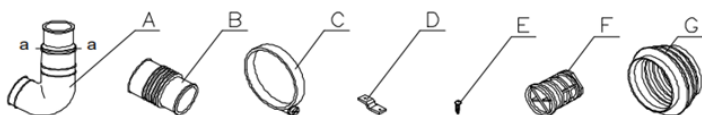

Fig. 2
- Pump accessories: A–G (see Fig. 2 – Accessories)
If you do not need this connection, use the spare part F (plug - see Fig. 2), insert it in the designated direction into the side connection and turn it 90 degrees to lock it in place.
If you are using Ø40 mm, according to Fig. 2, cut off the Ø32 mm part (section a-a).